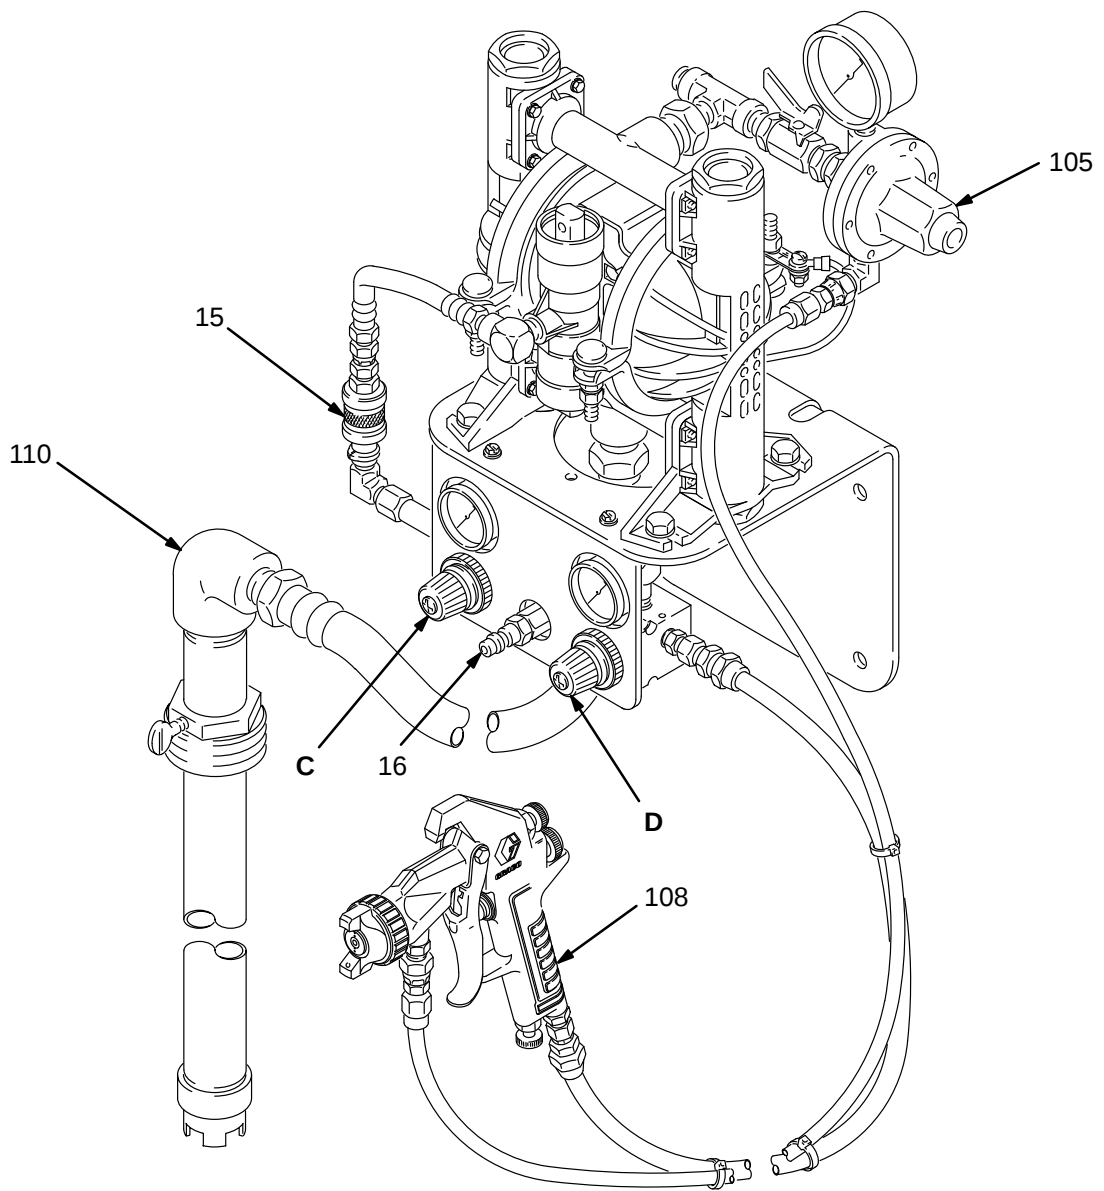

Fig 4
5. See Fig 4. Close both air regulators (C and D). Close the bleed-type master air valve (15) by sliding it all the way down.
6. Connect the air line coupler to the air inlet fitting (16).
7. Open the gun air regulator (D). Trigger the air spray gun (108) while continuing with the following steps.
8. Open the bleed-type master air valve (15) by sliding it all the way up. Slowly open the pump air regulator (C) until the pump starts to cycle. Allow the pump to cycle slowly until all air is pushed out of the lines and the pump is primed.
9. Adjust the fluid regulator (105) to the desired fluid pressure, typically 10–30 psi (0.7–2.1 bar), depending on the fluid viscosity.
10. Set the pump air regulator (C) to a level 30–40 psi (2.1–2.8 bar) higher than the regulated fluid pressure. This setting will provide the smoothest flow.
14. Adjust the gun air regulator (D) until the desired spray pattern is achieved.